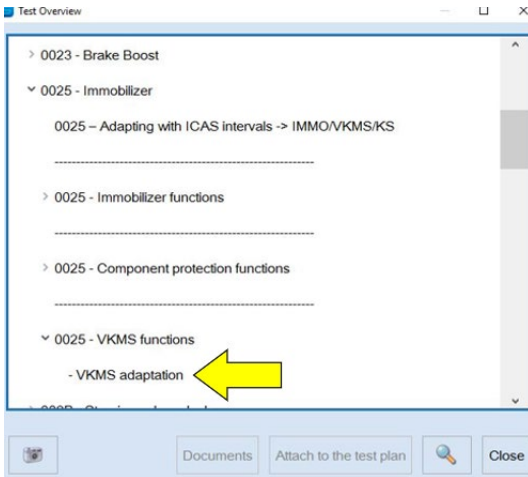

Figure 19: VKMS adaptation
- Select and perform "VKMS adaptation" (see figure 19)